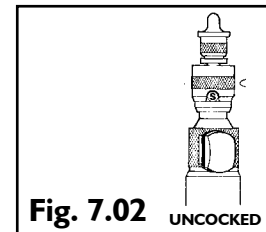

Fig. 7.02 UNCOCKED
- 1.2 Make sure firing pin and trigger are uncocked (see Fig 7.02).